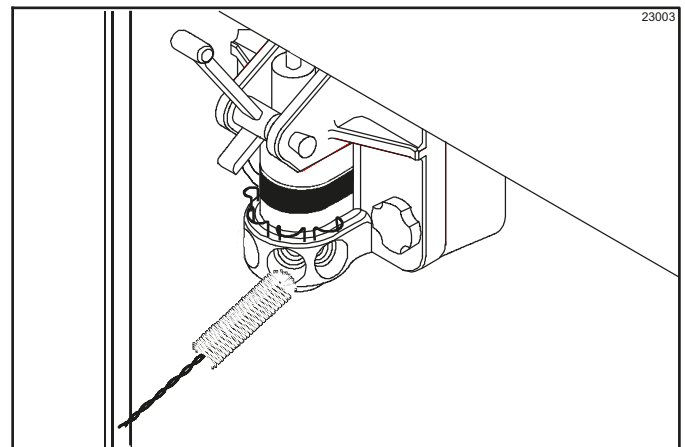

Figure 6-46
10. With the syrup-port brush, brush each syrup-port hole 10 to 15 times. Dip the brush in the cleaning solution before brushing each port. (See Figure 6-46.)